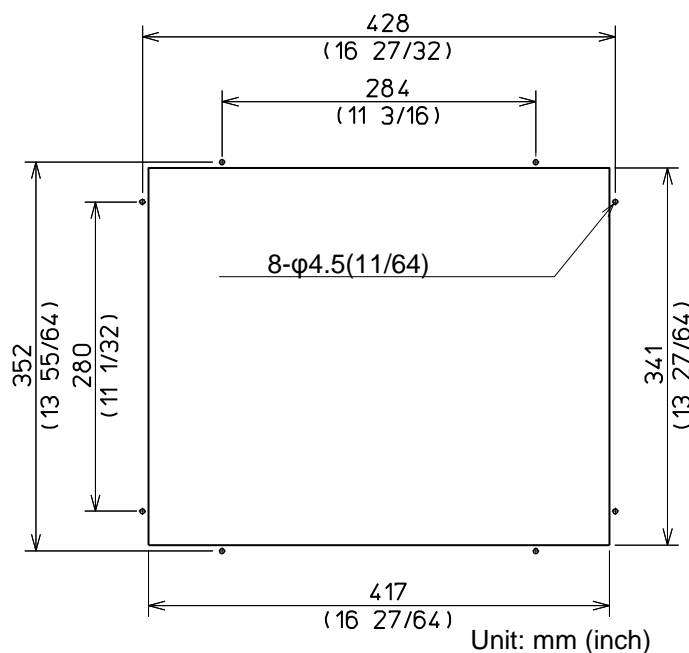

Figure 3.7 The opening and nut-holes for Display unit
(1) Cut an opening and drill eight 4.5 mm holes as shown in Figure 3.7, for attachment of a Display unit in a panel.
(2) Unscrew four knob bolts that hold the Display unit to the mounting bracket.
(3) Remove the Display unit from the mounting bracket and put it on a horizontal and stable place.